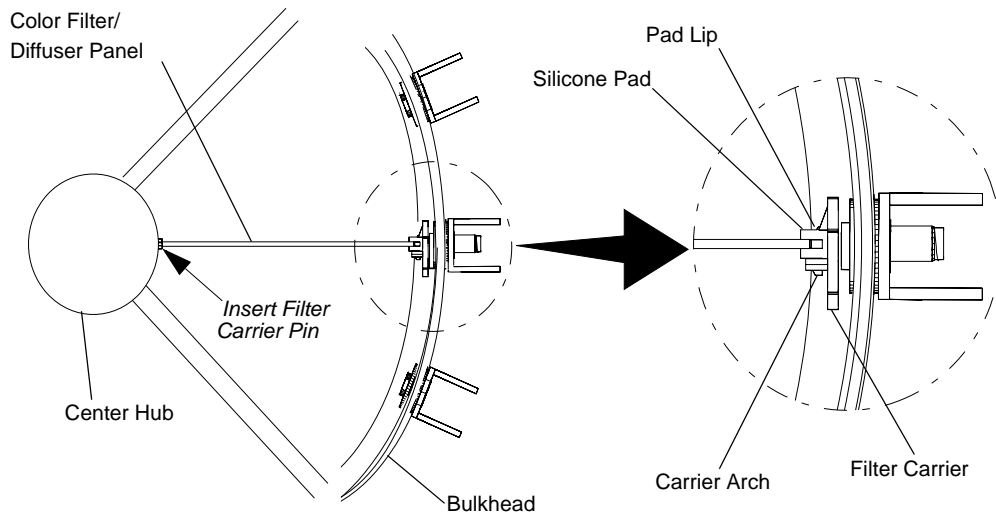

Figure 8: Color Filter and Diffuser Panel Removal
Step 8. Remove filter or panel as follows (shown in **Figure 8**):
Step 9. Insert filter carrier pin (of replacement filter or panel) into center hub as shown in **Figure 8**.